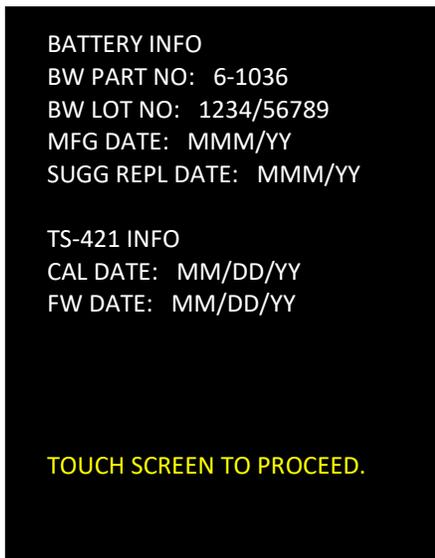

Figure 4.
- 5.6 When entering Calibration Mode, the Touchscreen shows battery pack information (Figure 4). Record battery pack information on the Calibration Sheet (Appendix A). Press the Touchscreen anywhere to continue. (Note: The rechargeable battery pack is On Condition with a nominal life of 5 to 7 years from manufacture date. The battery's ability to retain charge will diminish over time and it should be replaced when charge retention becomes unacceptable. Changing the battery does not affect calibration and can be accomplished at any time.